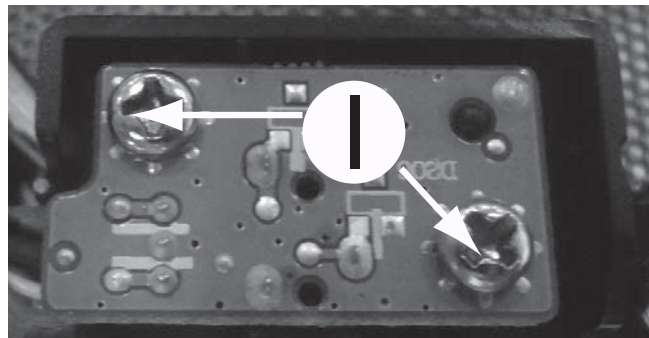

Figure 9
- 1) Loosen 2 screws "I" on the top of MP3 Board as shown in figure 9.